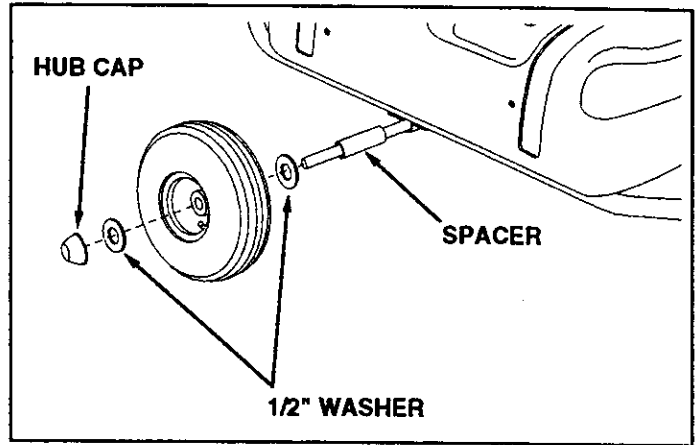

FIGURE 6
- Assemble the boom mount bracket to the rear of the hitch tubes using two 5/16" x 1-3/4" carriage bolts, 5/16" lock washers and 5/16" hex nuts. **Do not tighten yet.** See figure 6.
- Slide the axle through the two axle brackets. See figure 6.
- Assemble a spacer, a 1/2" washer, a wheel (valve stem facing out) and another 1/2" washer onto the axle. Lightly tap a hub cap onto the end of the axle. Repeat on other end of axle. See figure 6.